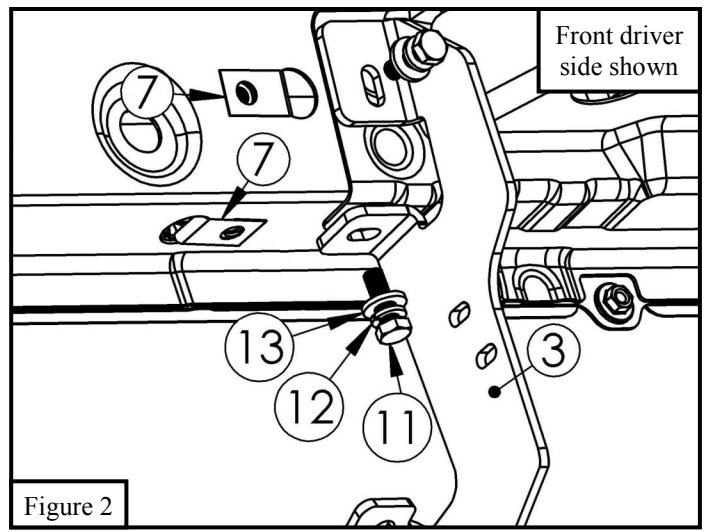

Figure 2
- Locate (1) mounting bracket A and loosely secure it to the driver side rocker panel mount locations using the provided hardware: (2) M8 hex head bolt, (2) M8 flat washer, (2) M8 lock washer, and (2) M8 u-nut clip. See **Figure 2**.